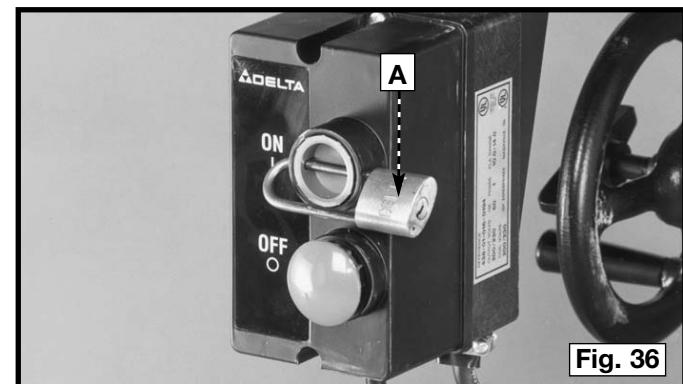

Fig. 36
IMPORTANT: When the machine is not in use, the switch should be locked in the "OFF" position to prevent unauthorized use, using a padlock (A) Fig. 36 with a 3/16" diameter shackle.